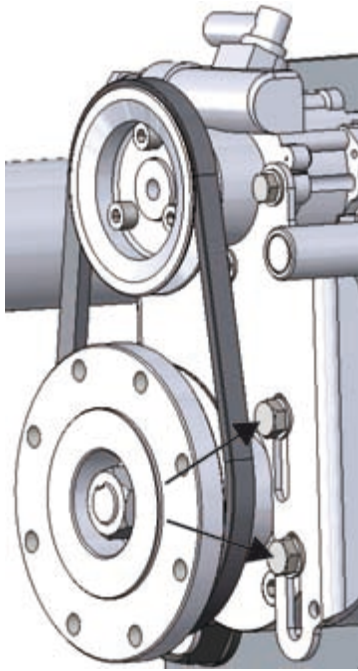

Figure 76. Hydraulic pump rack fastening screws
The rack is attached to the front surface of the bearing housing with four screws, two on each side of the pump (figure 76).
1. Loosen the fastening screws of the hydraulic pump rack (figure 76).
2. Set the rack against the front surface of the bearing housing and tighten the fastening screws (figure 76) loosely.